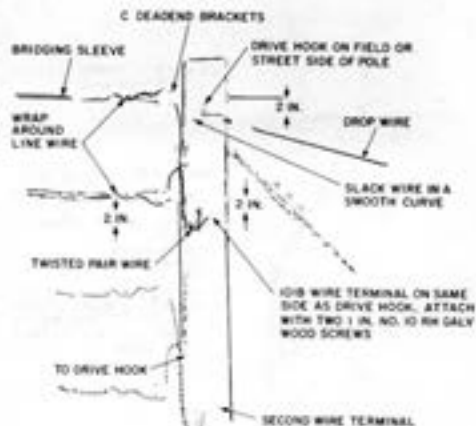

Fig. 6—Where Lines are Terminated on Deadend Brackets Attached to Face or Back of a Pole
- 4.15 Poles equipped with deadend brackets (Fig. 6).